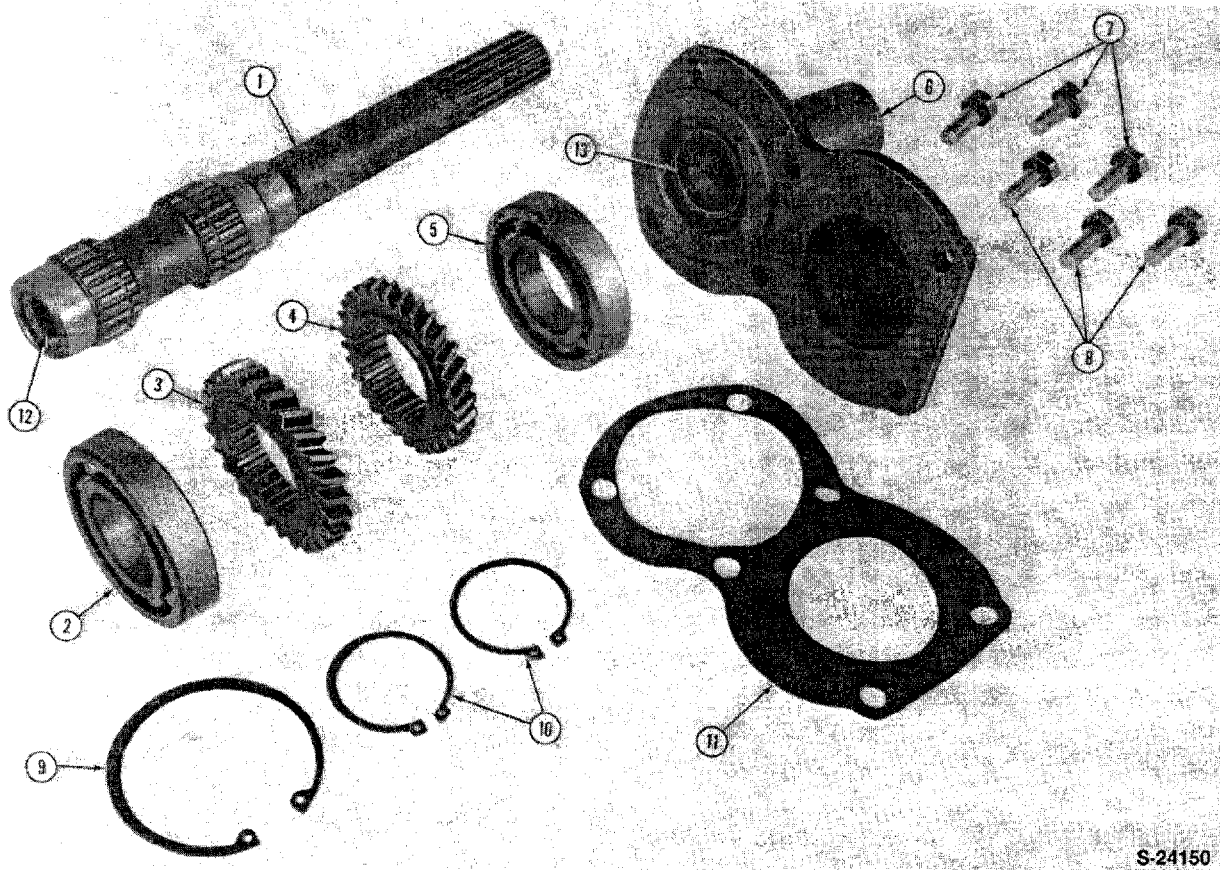

Figure 143
2. Pull the input shaft forward and remove the rear bearing (2) from the shaft.
3. Remove the gear (3), snap rings, (10) and gear (4), Figure 143.